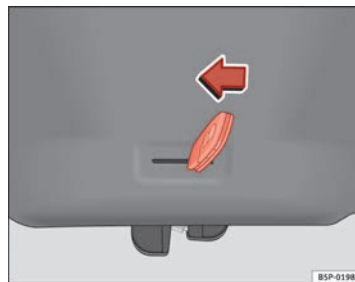

Fig. 66 Tailgate: emergency open
- Insert the key in the groove and unlock the locking system, turning the key from right to left, as shown by the arrow ⇒ fig. 66.